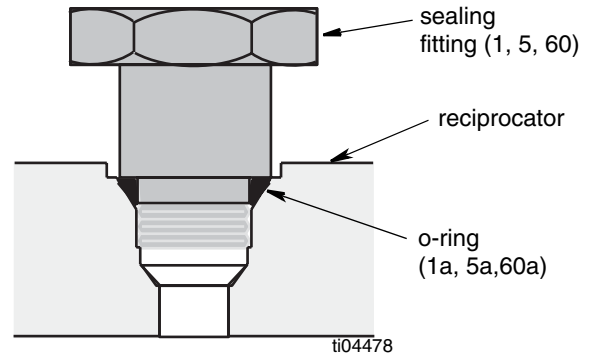

FIG. 4
4. Slowly loosen hydraulic supply (60) and return (5) fittings to relieve any pressure. Then remove hoses.
6. Check o-rings (5a and 60a) on fittings and replace them if they are worn or damaged. See FIG. 4 and Reciprocator parts drawing, page 18.
7. Using a strap wrench on displacement cylinder (109) screw it out of motor housing (43) and slide it down as far as it will go.
8. Pull connecting rod (35) down as far as it will go. Remove pin (204).
9. Unscrew connecting rod (107) to remove pump.
1. Place adapter (43) in a vise. Remove four cap screws (46). Pull bottom cap (32) off adapter (43). If needed, replace seals as described on page 10.
2. Loosen both nuts on fluid tube (45). Use a wrench to rotate tube fittings (1, 60) to the side and then remove tube (45). Check o-rings (1a, 60a) on fittings and replace them if they are worn or damaged. Install plugs in fittings to prevent contamination. See FIG. 4 and Reciprocator Parts drawing, page 18.
3. Remove capscrew (3), nuts (36) and lockwashers (37) on top of reciprocator.